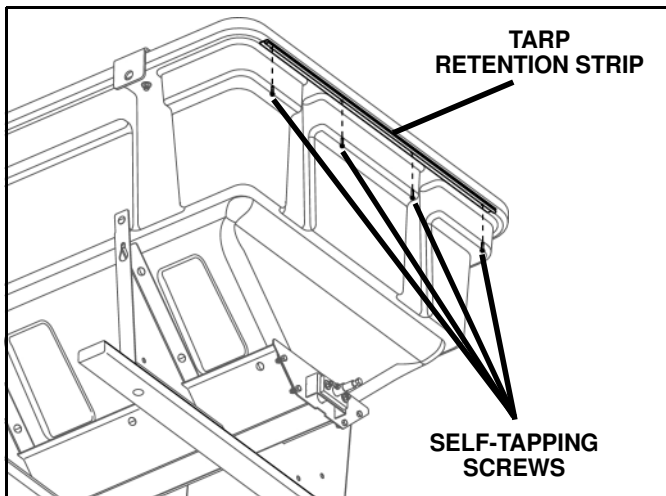

Figure 1
1. Center the aluminum tarp retention strip beneath the front lip of the hopper. (See Figure 1.)